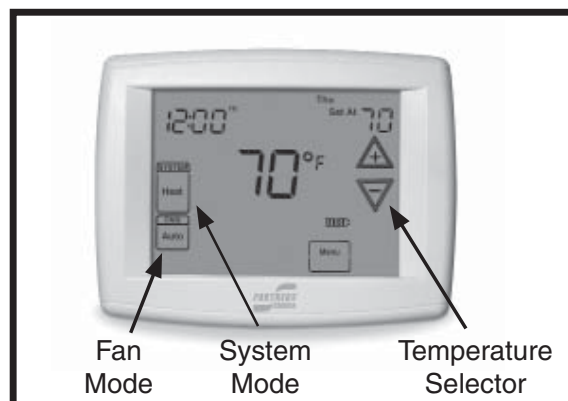

Figure 1. Digital Thermostat
1. Set the thermostat's system mode to COOL or AUTO and change the fan mode to AUTO. See Figure 1.
1. Set the thermostat's system mode to HEAT or AUTO and change the fan mode to AUTO. See Figure 1.
Change the thermostat's system mode to OFF and the fan mode to AUTO (See Figure 1). **NOTE:** The system will not operate, regardless of the temperature selector setting.